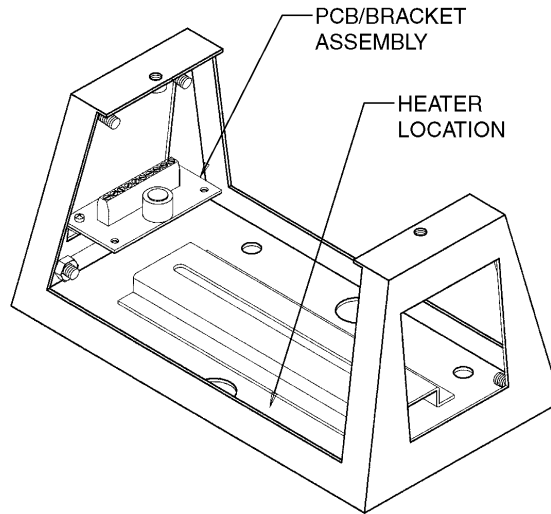
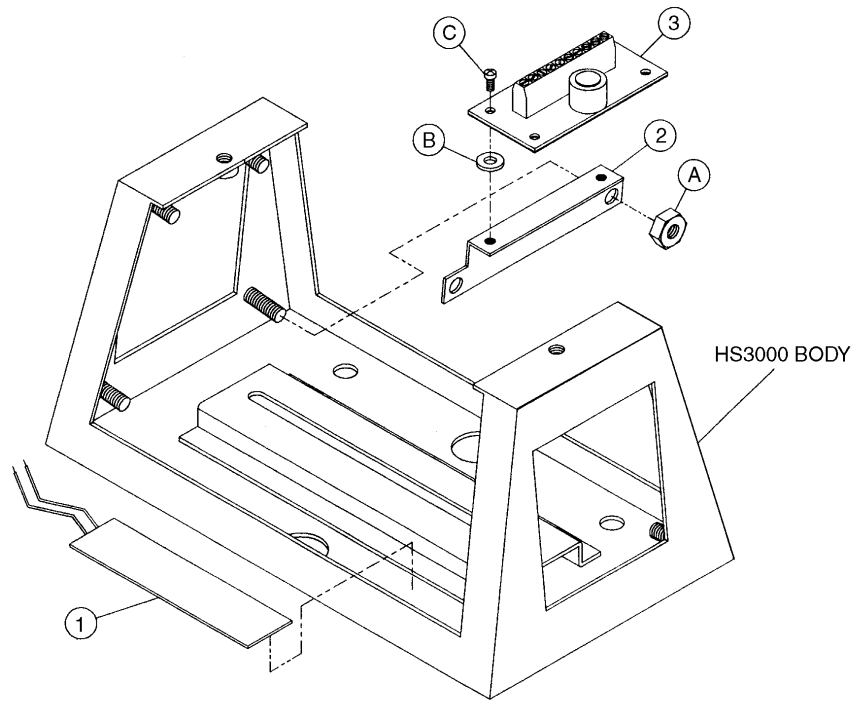

Figure 1. Heater Kit Installation
Figure 3. HKHS3000/HKHS3024 Exploded Assembly Diagram
2. Attach the PC board/bracket assembly to the studs on the rear end plate (refer to Figure 1 and Figure 3) using the two 1/4-20 nuts supplied.
3. Install the heater pads onto the front of the body (end nearest window) by removing the backing and pressing in place onto the floor of enclosure (refer to Figure 3).
The following parts list corresponds to the items identified in Figure 3 above.